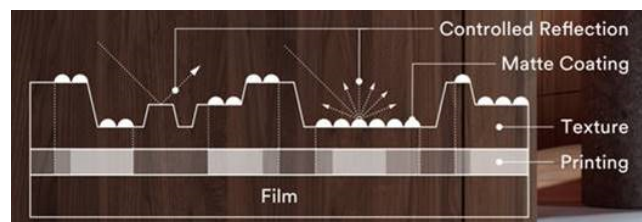

Figure 2: New Controlled Reflection Technology
- Aesthetics — New Controlled Reflection Technology gives Premium Wood Series the realistic appearance and texture of natural wood. The controlled reflection of the matte coating technology is combined with both fine and deep wood grain texture and high-quality printing (see Figure 2)."